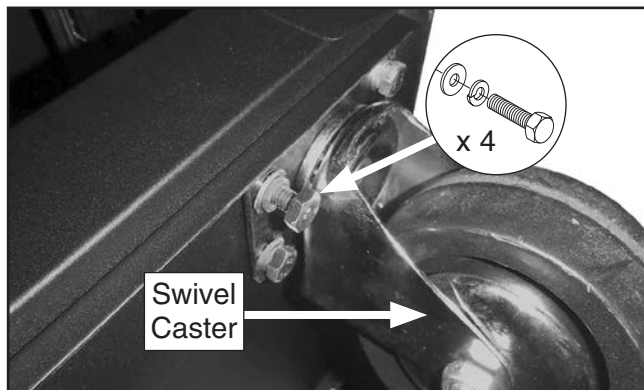

Figure 3. Caster installed.
4. Attach each caster using four M8-1.25 x 25 hex bolts, 8mm lock washers, and 8mm flat washers (see **Figure 3**).